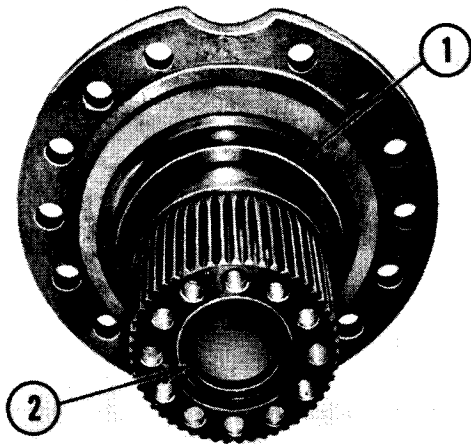

Figure 6-21
Install a new "O"-ring seal (1, Fig. 6-16) in the groove of the seal retainer (1, Fig. 6-21). Grease the seal surface of the axle hub and the "O"-ring. Push the retainer (1) into position being sure it contacts the axle housing flange about its entire circumference.